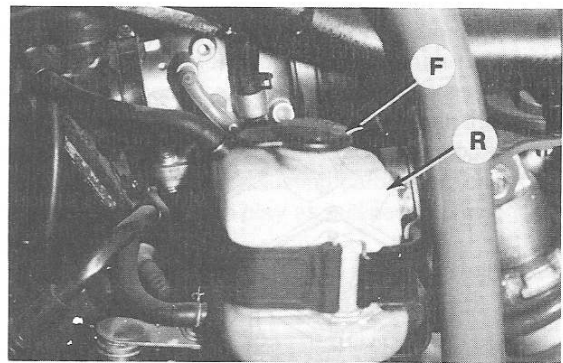

Fig. Y10-12—Cooling system reservoir (R) should be maintained at "FULL" mark. Remove filler cap (F) to add coolant.
The coolant level in the cooling system reservoir (R—Fig. Y10-12) should be maintained at "FULL" mark. Remove filler cap (F) to add coolant.